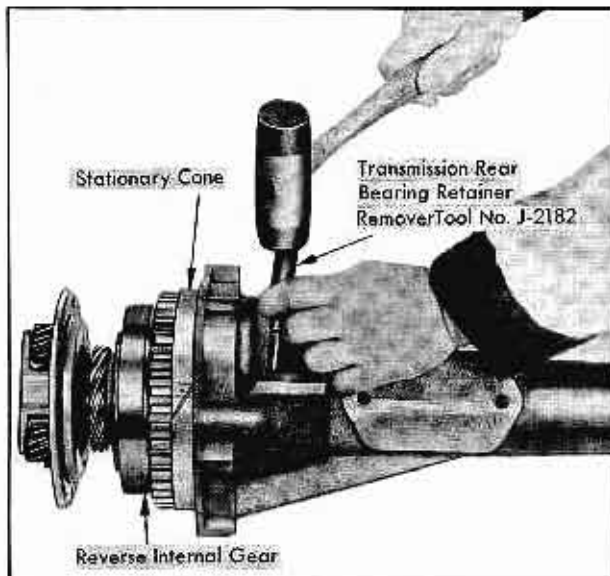

Fig. 14-34 Removing Snap Ring from Output Shaft
4. With Tool No. J-2182, remove snap ring holding the output shaft to the rear bearing retainer. Fig. 14-34.